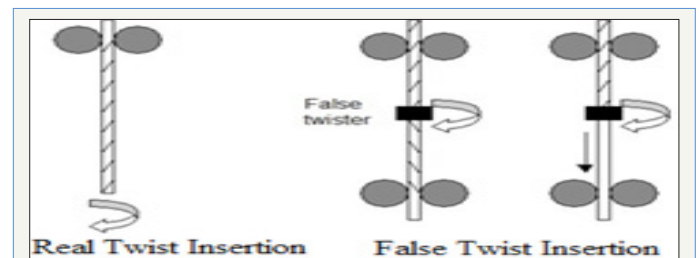

Figure 17: Real Twist and False Twist.
B. False twist: For injecting false twist in a yarn, mutually the two sides of a yarn are clamped, generally with rollers to inject twist with a fake twister among the clamping points (Figure 17).